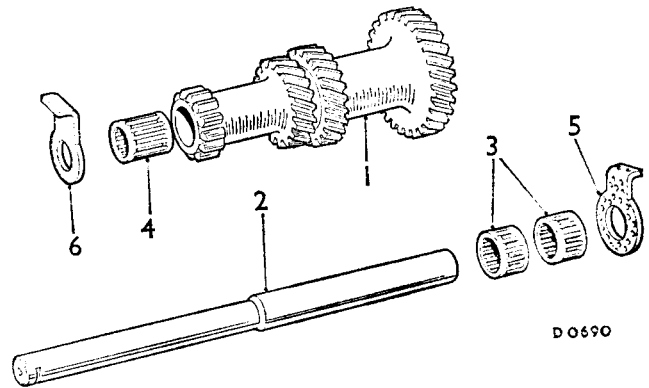

Fig. F.4
28. Refer to item 18. Drift the third motion shaft bearing into the central web using Service tool 18G 579 modified, together with the spacer washer.
29. Refit the laygear with the standard sized thrust washer at one end, and measure the gap at the other. Refer to the chart (Fig. F.4) to select the correct variable thrust washer, to give an end clearance of between .002 and .006 in. (.05 and .15 mm.). On three-speed synchromesh gearboxes the small thrust washer is of a standard size, the large one selective, and vice versa on four-speed synchromesh gearboxes.